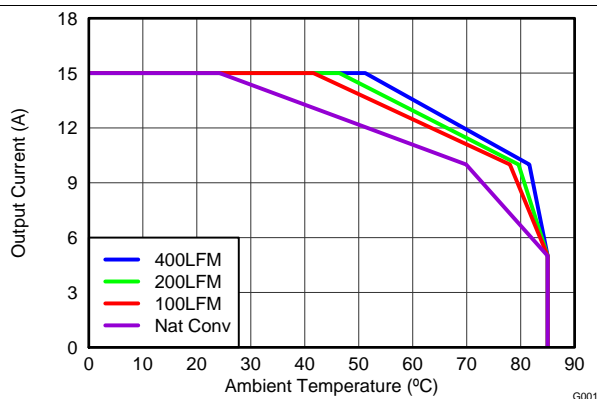

Figure 3. Safe Operating Area – PCB Horizontal Mount
The SOA curves in the CSD87333Q3D data sheet provides guidance on the temperature boundaries within an operating system by incorporating the thermal resistance and system power loss. Figure 3 to Figure 5 outline the temperature and airflow conditions required for a given load current. The area under the curve dictates the safe operating area. All the curves are based on measurements made on a PCB design with dimensions of 4 in (W) × 3.5 in (L) × 0.062 in (T) and 6 copper layers of 1-oz copper thickness.